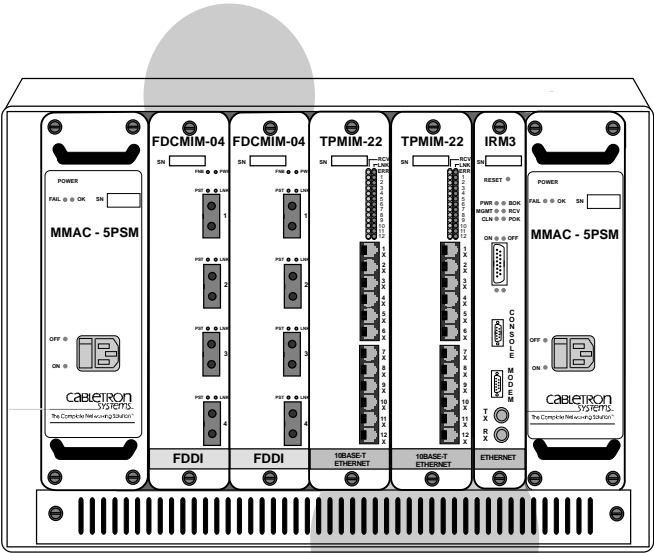

Figure 2-4. MMAC-5FNB with FDDI and Ethernet MIMs
In Figure 2-4, the MMAC-5FNB has an IRM3 in slot 1, TPMIM-22s in slots 2 and 3, and FDCMIMs in slots 4 and 5. The FDCMIMs form a stand-alone FDDI network with no connection to the Ethernet components. Since there is no connection between the FDDI (C) bus and the Ethernet (A) bus in the MMAC, the two disparate networks have no affect on each other.